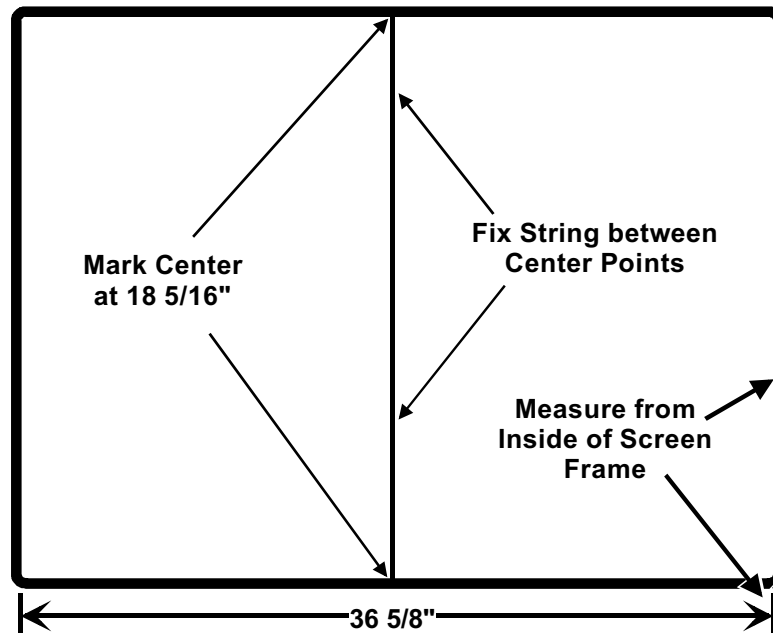

Figure 15-20, Stringing Horizontal Center Line
8. Apply strings as follows: Measure and mark the physical center of the screen. It is acceptable to measure the distance from the inside of the screen frame and divide this length by 2. For example, if the screen measures $36 \frac{5}{8}$ " from one side to the other inside the frame, the physical center of the screen will be $18 \frac{5}{16}$ " from either side. Mark this point at the top and bottom of the screen, then place a string or other suitable reference between the two marks. This will serve as the horizontal center reference line as shown in Figure 15-20.